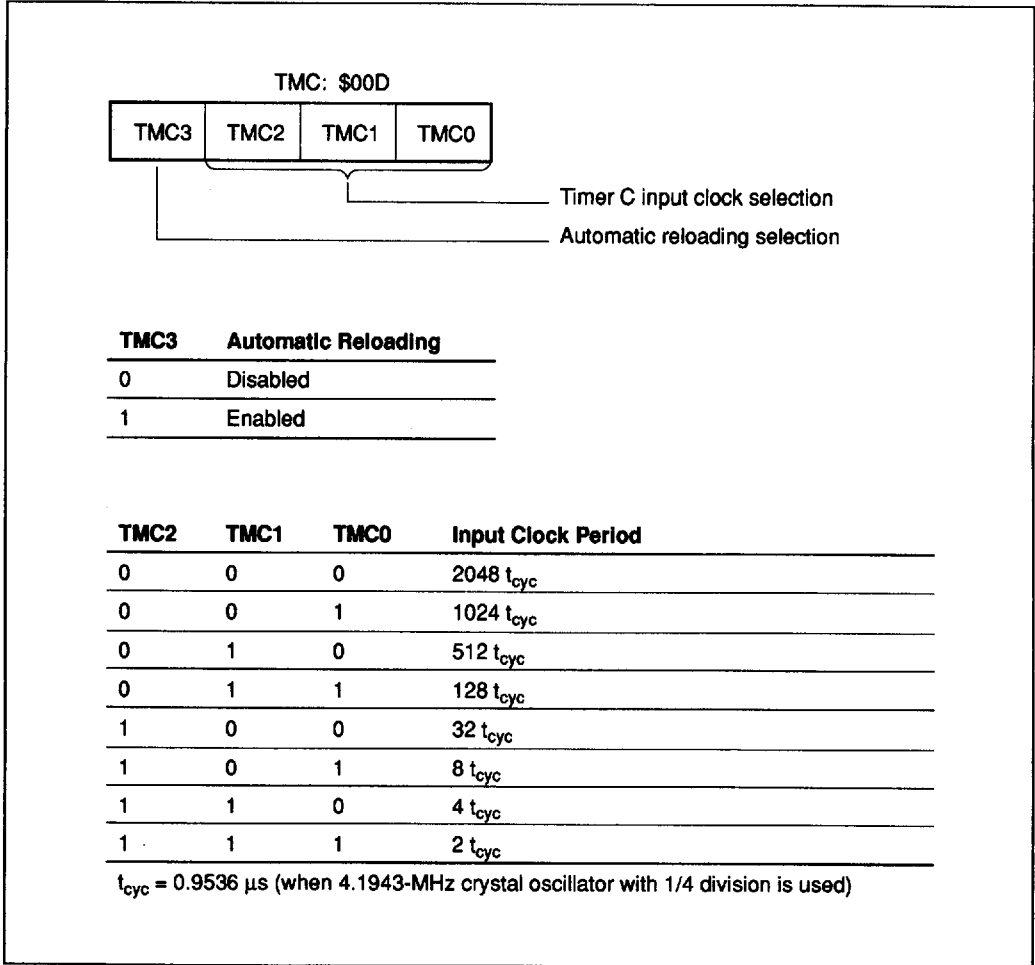

Figure 31 Timer Mode Register C
**Timer Mode Register C (TMC: \$00D):** Four-bit write-only register which selects the automatic reloading function and the prescaler division ratio for timer C as shown in figure 31. It is initialized to \$0 by MCU reset.